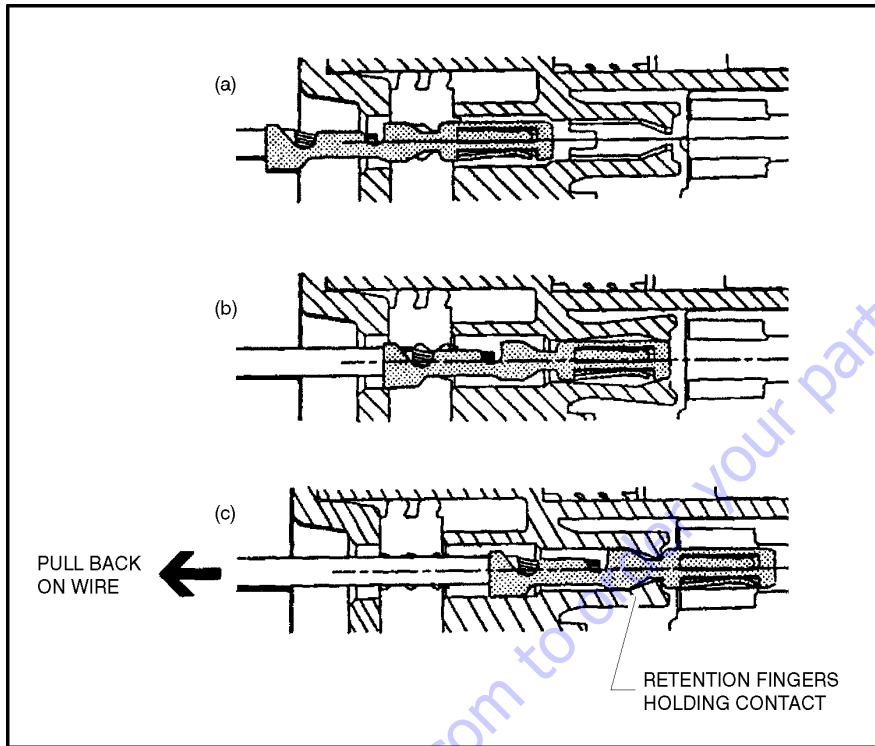

Figure 7-11. Connector Assembly Figure 2
1. To insert a contact, push it straight into the appropriate circuit cavity as far as it will go. (See Figure 7-11.)
2. Pull back on the contact wire with a force of 1 or 2 lbs. to be sure the retention fingers are holding the contact. (See Figure 7-11.)